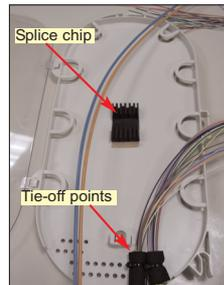

Fig. 37
- Secure the splice chip to the tray by removing the paper from the rear exposing the adhesive and placing in the tray (Fig. 37).